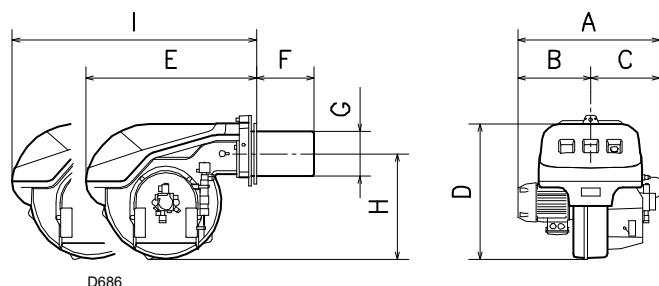

Fig. 2
4.2.2 Max. dimensions (Fig. 2) - approximate measurements
The maximum dimensions of the burner are given in (Fig. 2).